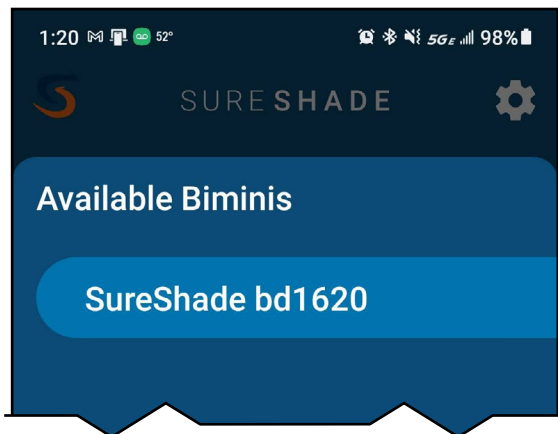

Fig.71
H. Select the desired bimini from the Available Biminis list (Fig.71).